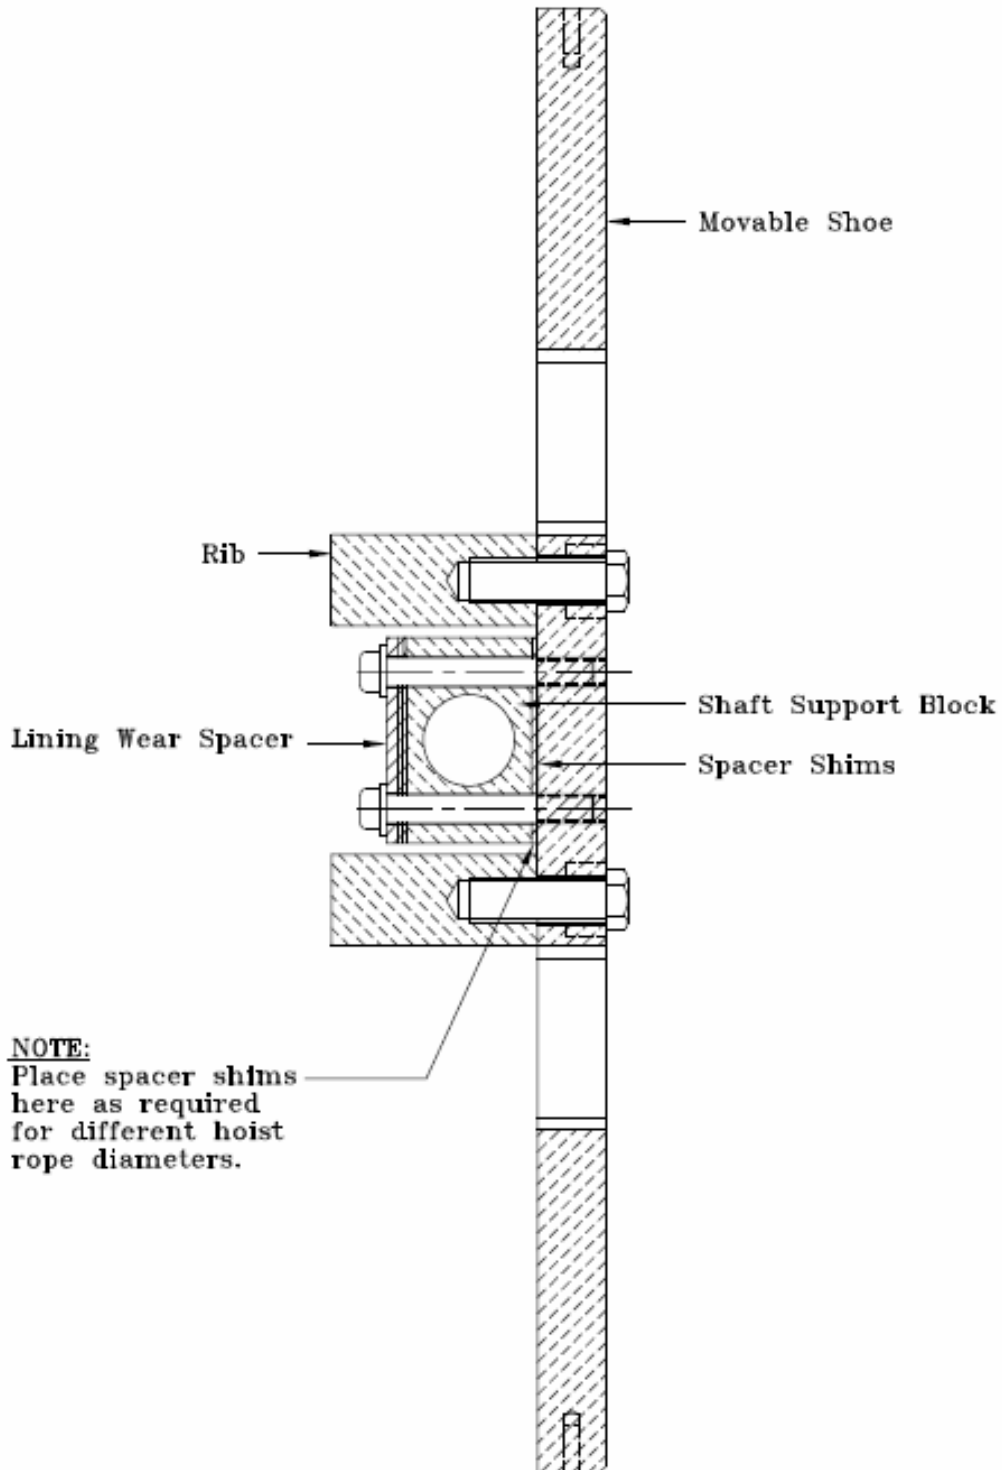

FIGURE 6
- If the lining wear-in is not completed after the grooves in the linings have reached approximately 1/16" deep, spacer shims (**Figure 6**) can be moved from between the shaft support blocks and moveable shoe to the back of the support block to allow the rotating shaft to completely turn the corner and move up the cam. Refer to **Chart 3** for initial spacer and shim set-up. **Note:** Before changing spacers, first install security set screws to prevent unintended "ROPE GRIPPER™" activation.
2. If lining wear is not excessive (less than 3/16”), spacer shims (**Figure 6**) can be added between the shaft support blocks and the moveable shoe. Remove the bolts that hold the blocks to the movable shoe, place the lining wear spacer shims under the blocks and reinstall and tighten bolts. Addition of shims will move the rotating shaft toward the bottom end of the cam.